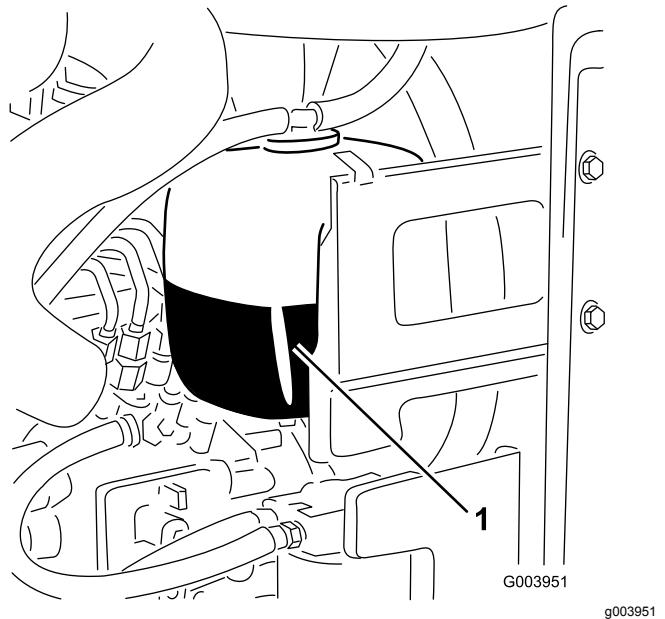

Figure 56
1. Check the level of coolant in the expansion tank (Figure 56).